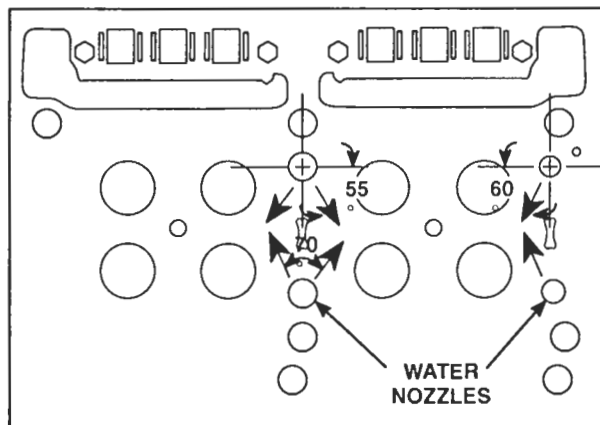

Figure 12. Correct Installation of Water Nozzles in Four-Valve Cylinder Head
- d. For the positioning of the nozzles in a four-valve cylinder head (Figure 12.), press the nozzles .003 inch above to .010 inch below the surface of the cylinder head. Check to make sure the nozzles fit tight. If necessary, use a wood plug or other suitable tool to expand the nozzles, or tin the outside diameter with solder to provide a tight fit. If solder is used, make sure the orifices in the nozzles are not closed with solder.